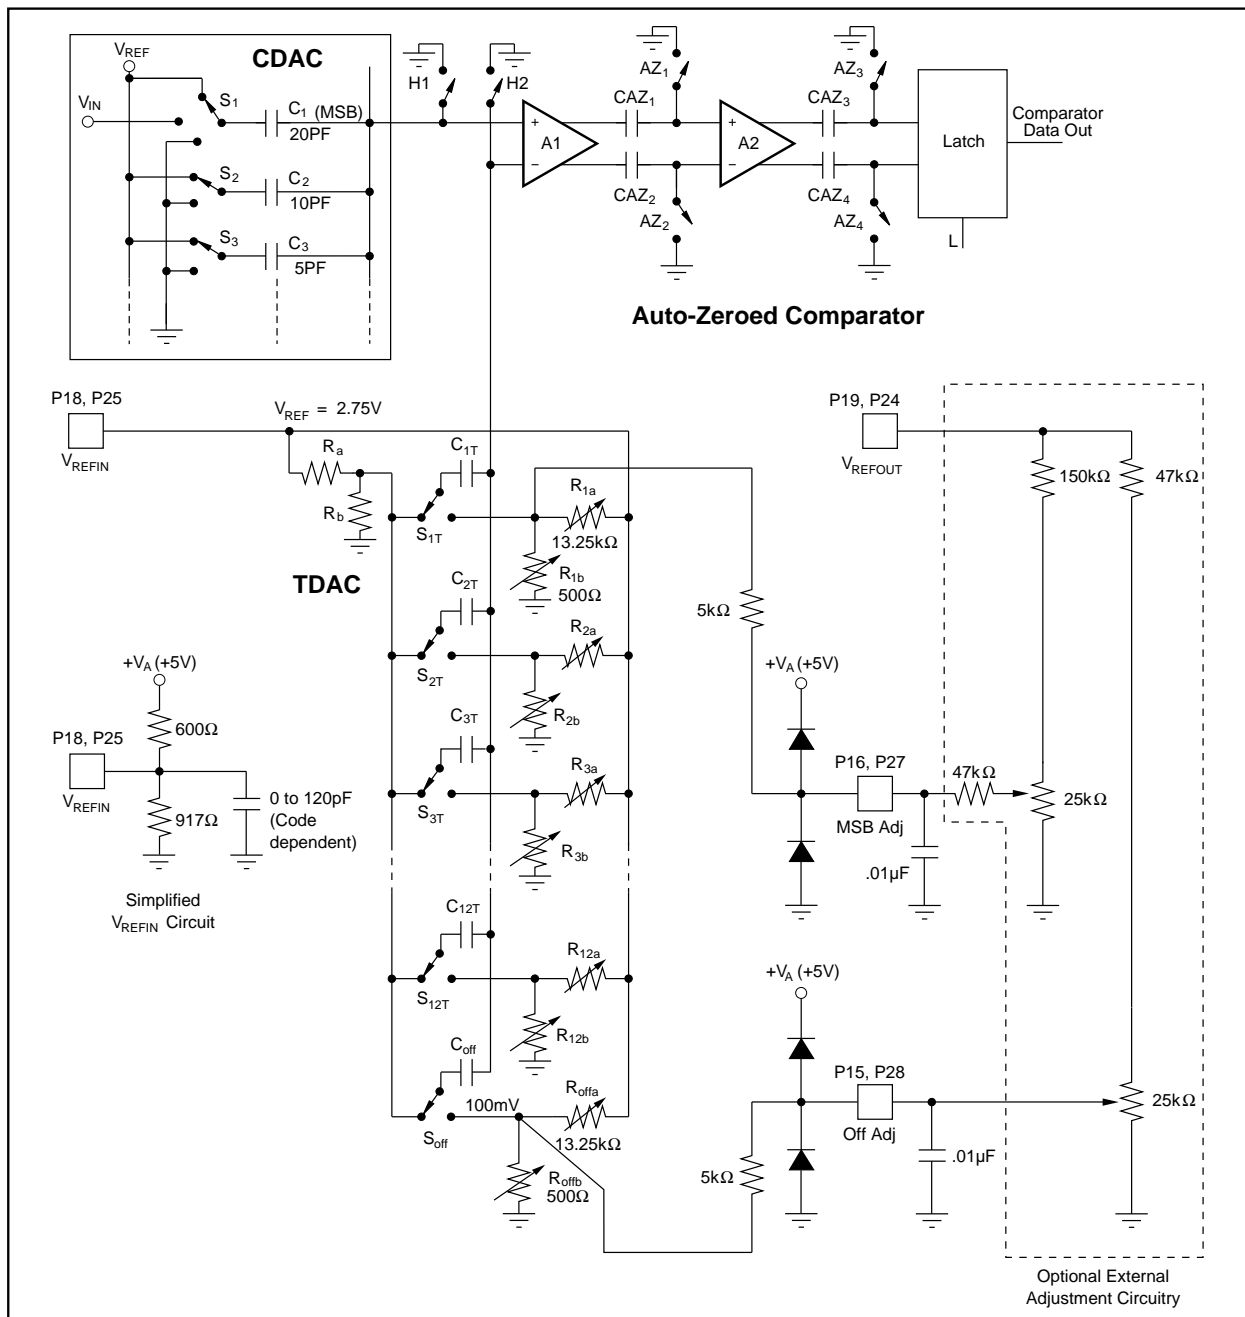
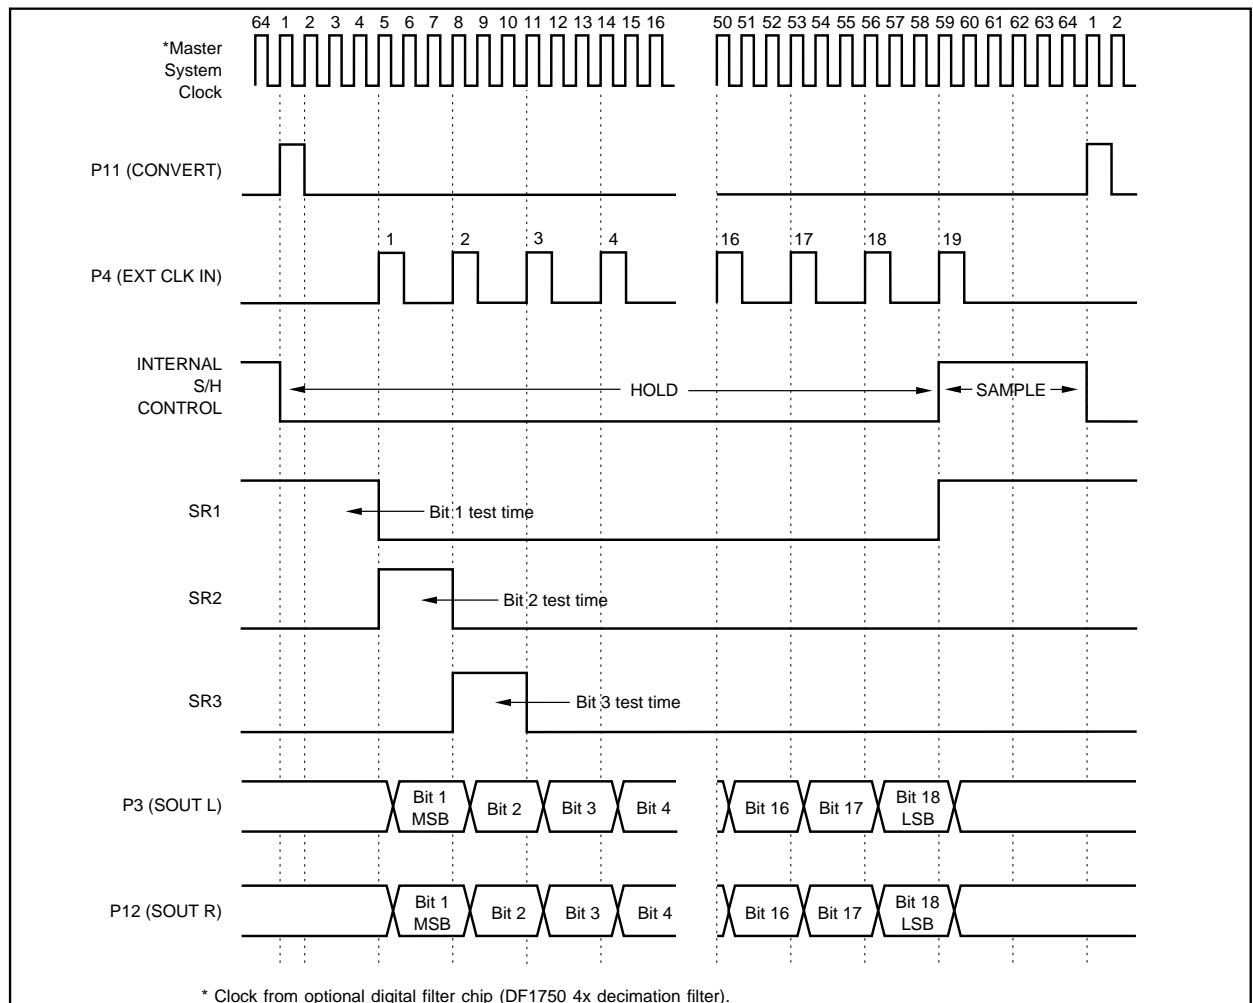

FIGURE 1. PCM1750 Simplified Circuit Diagram.
FIGURE 2. PCM1750 Input/Output Timing Diagram.
NOTES: (1) Binary Two's Complement coding. (2) The PCM1750 is tested and guaranteed at 5.2 μs , however it will operate at 4.5 μs . The dynamic performance is not guaranteed or tested at this conversion rate. (3) Ratio of $Signal_{RMS} / (Distortion_{RMS} + Noise_{RMS})$. (4) A/D converter sample frequency (4 x 48kHz; 4X oversampling per channel). (5) A/D converter input frequency (signal level). (6) Referred to input signal level. (7) Ratio of $(Distortion_{RMS} + Noise_{RMS}) / Signal_{RMS}$. (8) Externally adjustable to zero error. (9) Differential non-linearity error at bipolar major carry input code. Externally adjustable to zero error. (10) Full scale range (5.50V). (11) Refer to equivalent circuit in Figure 1. (12) Worst case operating condition. Refer to typical performance curves.
After each conversion, the dual ADC returns to the SAMPLE mode in order to track the input signals. The switches shown in the simplified circuit diagram of Figure 1 will then be in the following states: S1 connects V_{IN} to C1 ; S2 to S18 connect C2 to C18 to V_{REF} ; H1 and H2 connect the top plates of the capacitor arrays to analog common; and the latching comparator is switched into its auto-zero mode by closing AZ1 to AZ4. Notice that C1 serves two purposes: it samples and stores the input signal V_{IN} and it is the MSB of the CDAC. Storing V_{REF} on C2 to C18 creates a bipolar offset, enabling V_{IN} to cover a span from $-V_{REF}$ to $+V_{REF}$. The 1/f noise as well as the DC input offset voltage of the comparator are removed by an autozeroing cycle which
occurs during the SAMPLE period (see the timing diagram shown in Figure 2). These errors are stored on the AC coupling capacitors (CAZ1 to CAZ4, shown in Figure 1) between the gain stages. During the SAMPLE period the inputs to gain stages A1 and A2 and the latch are grounded by switches H1, H2, and AZ1 to AZ4. Capacitors CAZ1 and CAZ2 track the amplified offset voltage of gain stage A1 and capacitors CAZ3 and CAZ4 do the same for A2. At the beginning of a conversion cycle, the autozeroing switches open and the instantaneous amplified value of both the DC offset voltage and the low-frequency flicker noise is stored on the coupling capacitors to produce zero comparator offset during a conversion cycle.
The timing diagram in Figure 2 illustrates the successive approximation routine of the PCM1750. Control signals CONVERT and CLK are derived from a master system clock which comes from a $256f_s$ (256 X the base sampling frequency of 48kHz) clock used by the optional digital filter. There are 64 clocks shown in the timing diagram because the PCM1750 is shown operating at 4 times the standard 48kHz sample rate (192kHz).
analog common (see Figure 1). This terminates the comparator auto-zero cycle and simultaneously switches (co-phase sampling) both converters from tracking their respective input signals into the HOLD mode, thus capturing the instantaneous value of V_{IN} (with a small delay specified as the aperture time).
For example, the testing of bit-2 proceeds in the following manner. The positive pulse from the second shift register element SR2, (see Figure 2 and 4) is applied to the bit-2 data latch and NOR gate. The NOR gate in turn drives S2 and switches bit-2 at the beginning of the bit-2 test interval. Note that the bit interval must be long enough to allow both the comparator input to settle and the comparator to respond. On
Notice from the timing diagram in Figure 2 that the successive approximation algorithm operates synchronously with an external clock to minimize digitally-coupled switching noise from corrupting either the sample-to-hold operation or the critical comparator bit decisions. The two serial output data streams are derived synchronously from the respective latched comparator outputs and are available after a delay of one CLKIN cycle as illustrated in Figure 2. The serial output driver cells are TTL and CMOS compatible.
Operation of the TDAC (trim DAC), which is laser trimmed at the wafer level, is described using bit-1 as an example. Switch S1T (see Figure 1) operates between two voltage levels—a reference level set by voltage divider Ra, Rb and a laser trimmable level set by R1a, R1b. The differences of these two levels is coupled by capacitor C1T to the minus input of the comparator to generate a correction voltage for